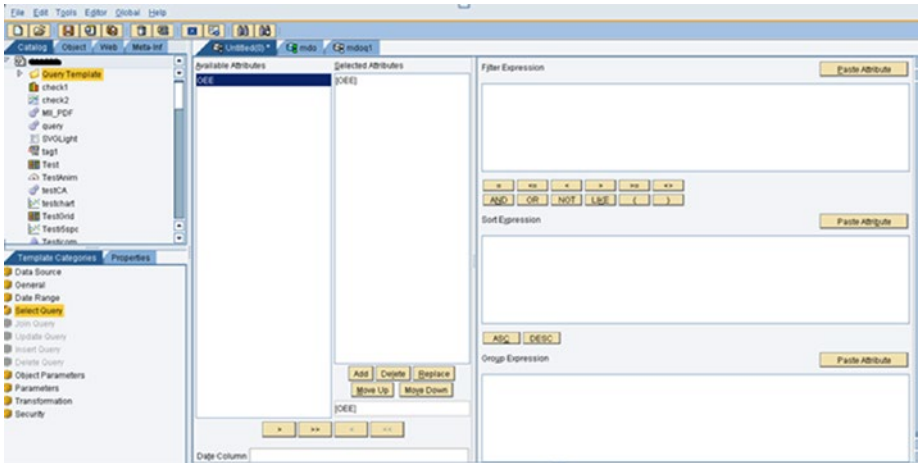

Figure 6-18. The Select Query Mode screen
- *Select Query*: If the mode selected is the Select type, the MDO will be configured in a Select query. The attributes can be selected from the list of available attributes for the MDO. If you choose Select mode, the screen in Figure 6-18 appears.